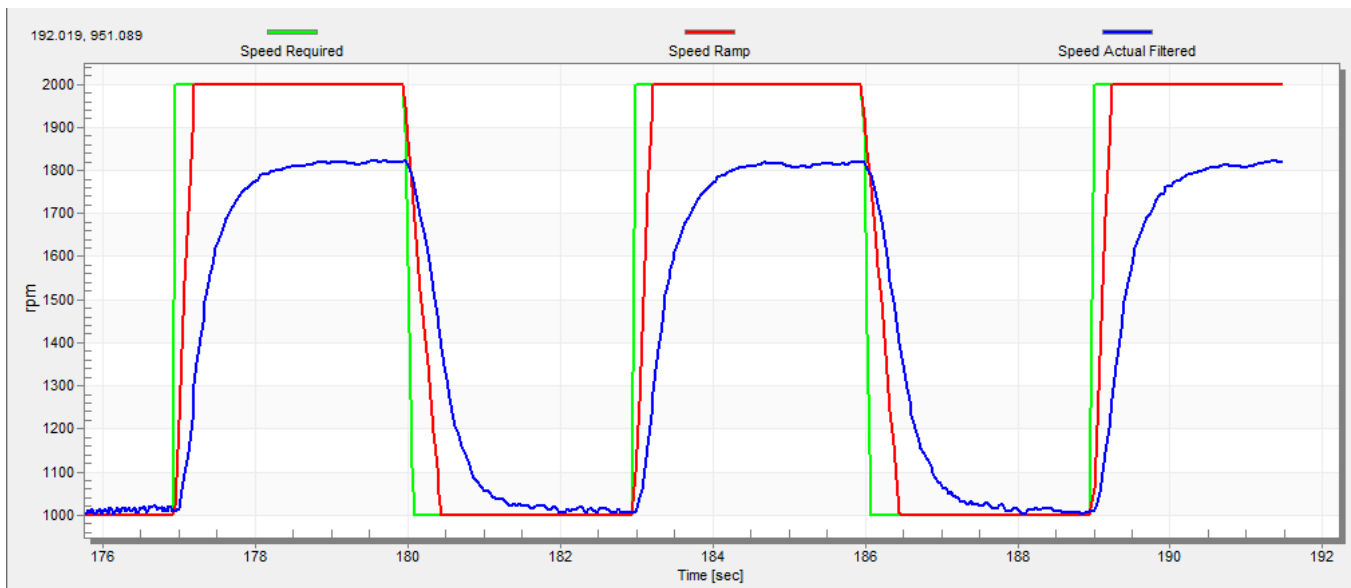

Figure 32. Speed Controller Response—SL_Ki value is low, Speed Ramp is not achieved
The motor speed control loop is a first-order function with a mechanical time constant that depends on the motor inertia and friction. Obtaining these mechanical constants using the PMSM electrical and mechanical parameter measurement process is described in Section 5.1.6, “Mechanical parameters measurement” and Section 5.1.7, “PMSM electrical and mechanical parameters measurement process”. If these mechanical constants are available, the PI controller constants can be tuned using the loop bandwidth and attenuation. Otherwise, the manual tuning of the P and the I portions of the speed controllers is available to obtain the required speed response (see the example response in Figure 32). There are dozens of approaches available to tune the PI controller constants. The following steps provide one of these examples to set and tune the speed PI controller for a PM synchronous motor:
- The “SL_Ki” value is low, and the “Speed Actual Filtered” does not achieve the “Speed Ramp” (see Figure 32).